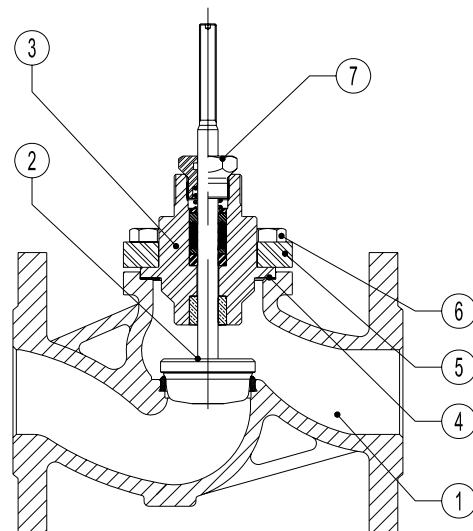

Fig.4
- Screw off the threaded bushing (3).
- Remove spring (4) and packing (graphite type G packing do not have spring).
- Replace the body gasket (4) (see fig. 4) after cleaning its housing face carefully.